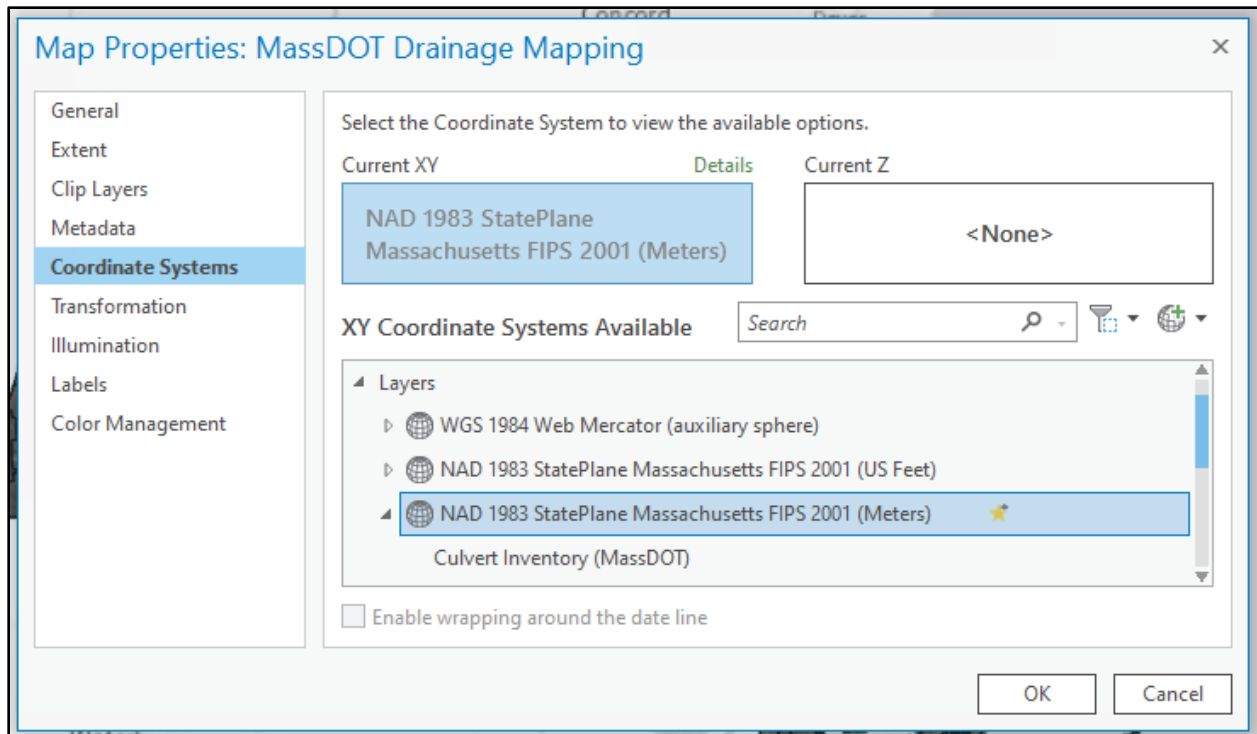

Figure 25
- Under the coordinate systems tab, check the current coordinate system is listed as **NAD 1983 StatePlane Massachusetts 2001 (Meters)**. (Figure 25)